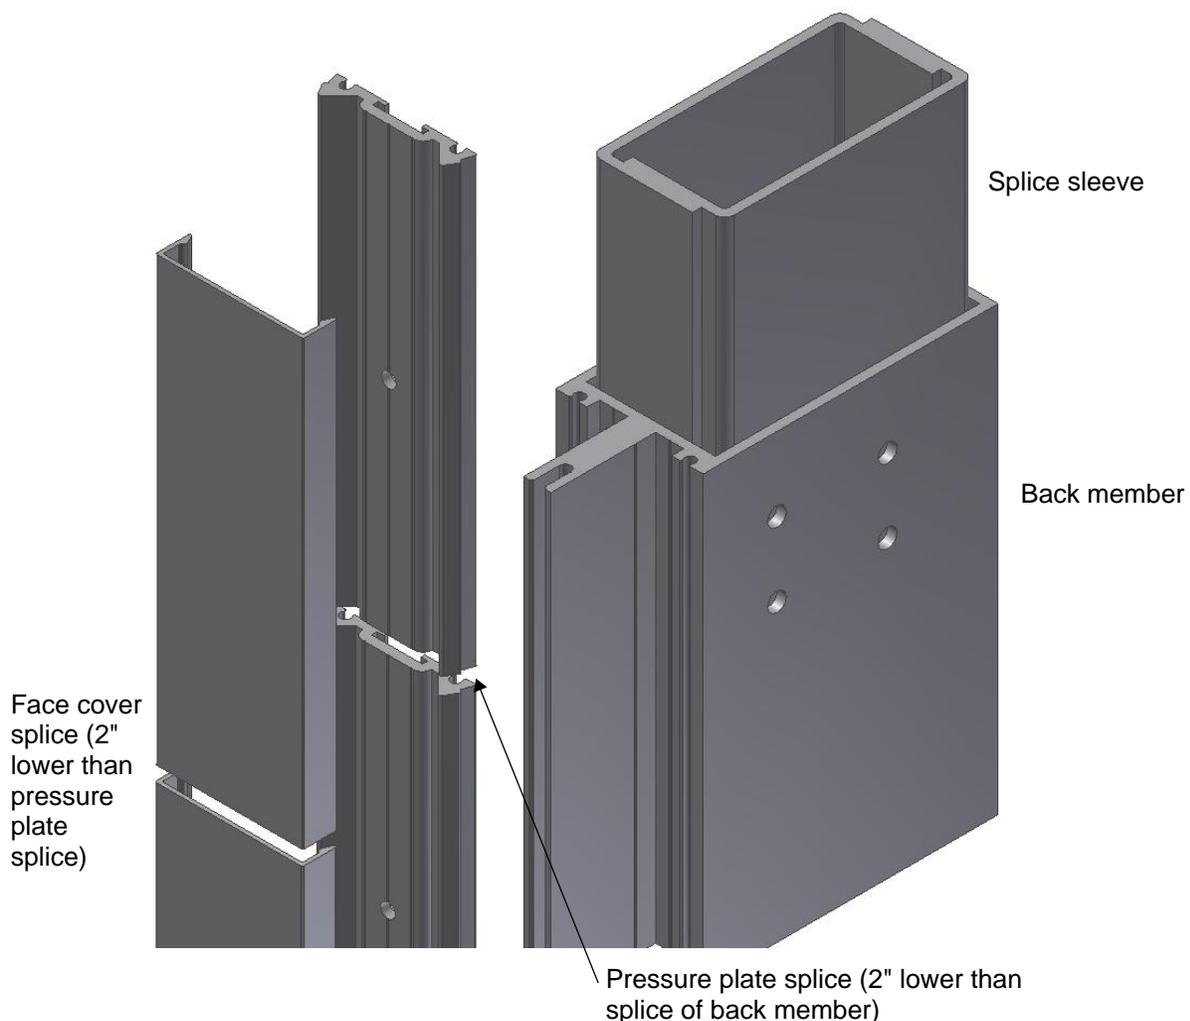

Figure 1: Splice face covers and pressure plates as necessary.
- To splice vertical pressure plates and face covers, allow a 3/8" gap for the splice joints. The splice in a vertical pressure plate should be 2" below the splice in the mullion, and the splice in a vertical snap-on cover should be 2" below the splice in the pressure plate as shown in Figure 1.